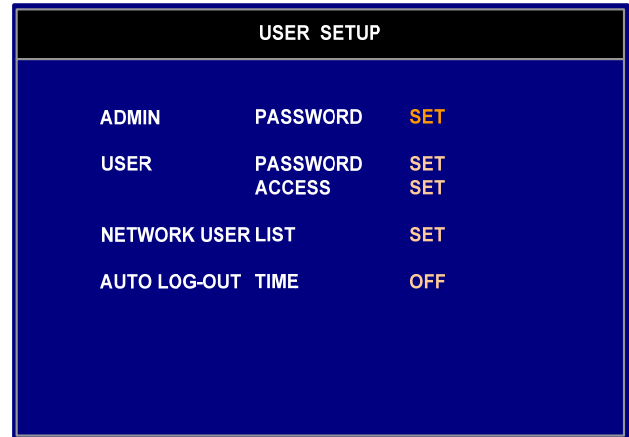

Figure 1.
- **ADMIN** – The Admin login has full permissions to the system. Select the **PASSWORD SET (Figure 1)** option to change the password.
- **USER** – The User login has variable permissions to the system. Select the **PASSWORD SET (Figure 1)** and **ACCESS SET (Figure 2)** options to configure the user.
- Select the **PASSWORD SET** (Figure 1) to set the user password.